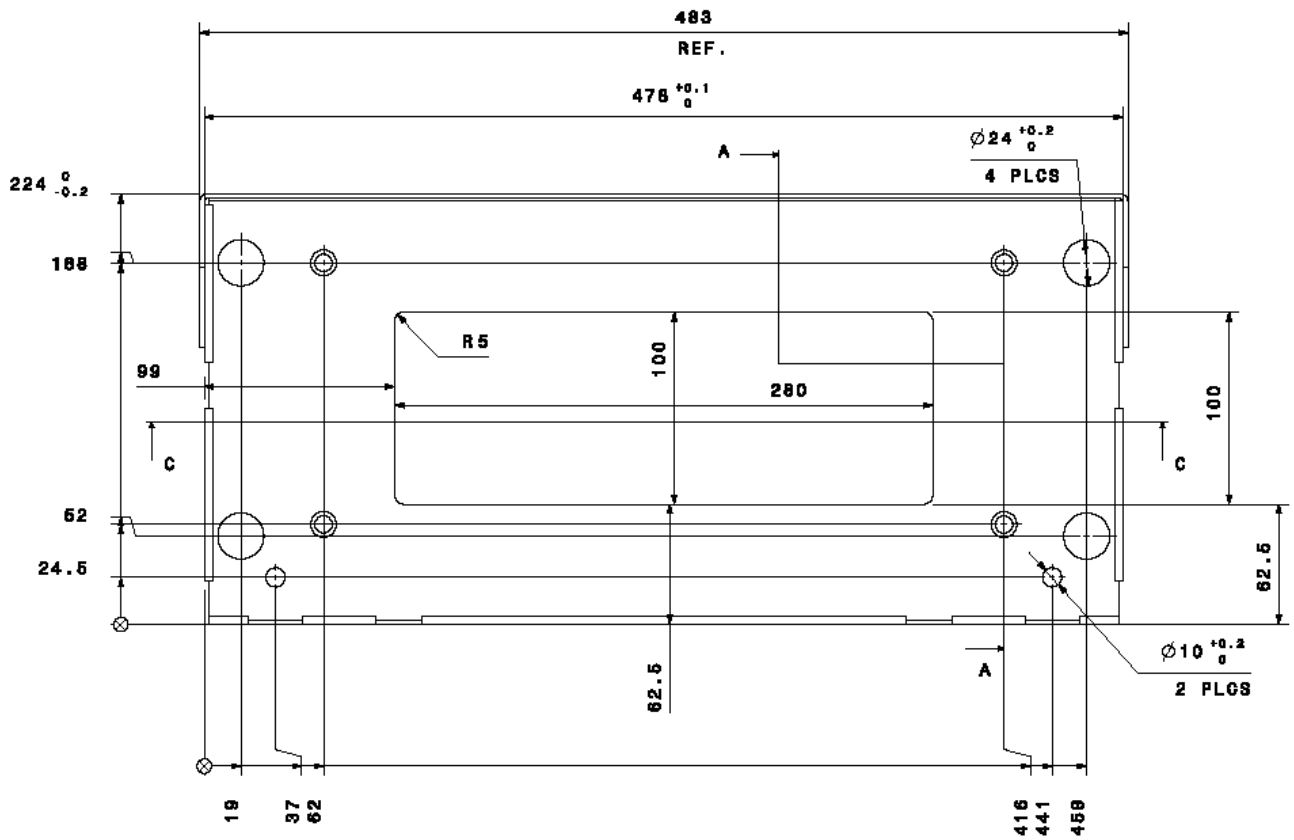

Figure 2-2. Mounting Tray Installation
(See Figure 2-2 to Figure 2-4)
- d. Attach the mounting tray to the vehicle roof using four bolts, spring washers, flat washers and nuts or by welding (see Figure 2-2).